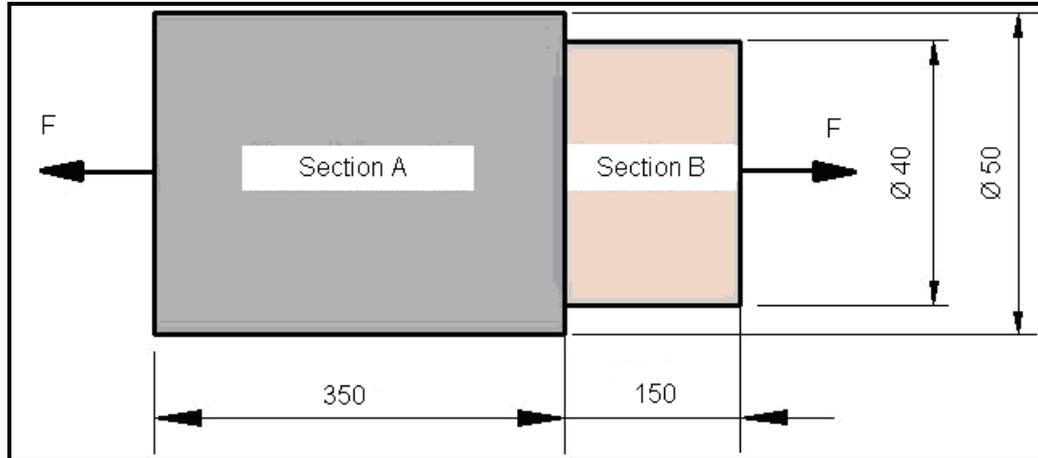

FIGURE 2.3
- 2.3 During the planting season a farmer experienced a problem with his plough. The stepped pin holding the blade to the frame was broken. He requires a new pin that can carry a load of 150 kN. You have decided to design a stepped pin made of brass with dimensions as shown in FIGURE 2.3.